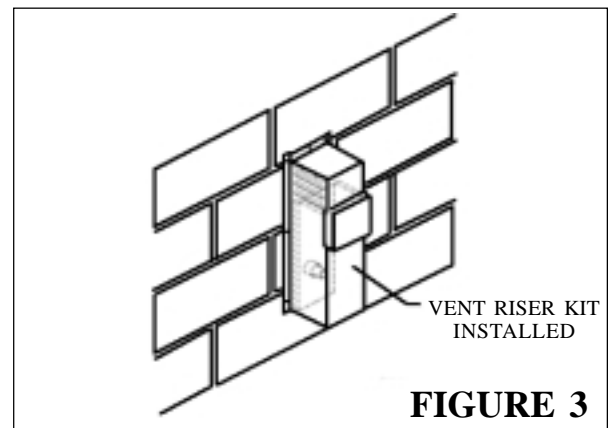

FIGURE 3
- STEP 6.** Place the vent riser kit over the vent exhaust tube, slide back into position and secure to mounting plate with screws provided. See Figure 3.
- STEP 7.** From inside, hold the wall sleeve with the PVC straps lined up horizontally. Push the PVC pipe and weather seal slowly through the wall until the weather seal is completely outside the wall. See Figure 3.
- STEP 8.** Pull the PVC straps toward you to pull the weather seal firmly against the outside wall. See Figure 3.